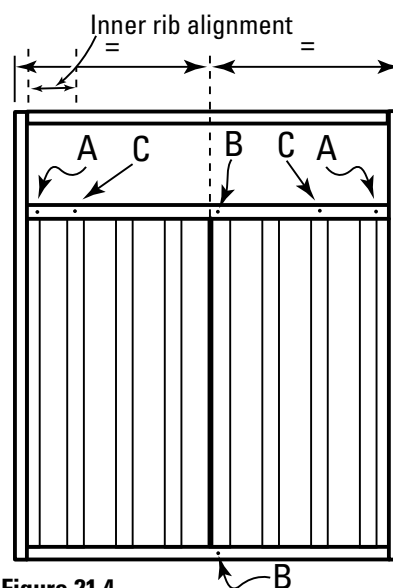

Figure 21.4
10. For extra wide gate with 'Plus' option additional screws are required (Figure 21.4):
For gate (standard width and extra wide) with 'Plus' option, drive an additional #10-16x16 screw into the two corners of the lower top rail passing through the lattice or slats clip in alignment with Position A (Figure 21.4).